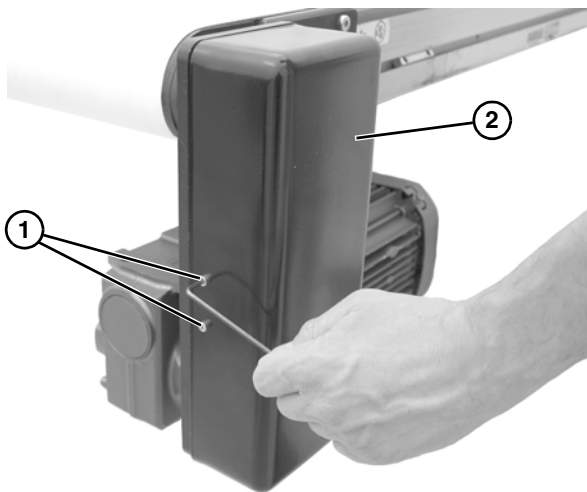

Figure 18
1. Remove four (4) screws (**Figure 18, item 1**) and remove cover (**Figure 18, item 2**).
6. Install cover (**Figure 18, item 2**) with four (4) screws (**Figure 18, item 1**). Tighten screws to 35 in-lb (4 Nm).